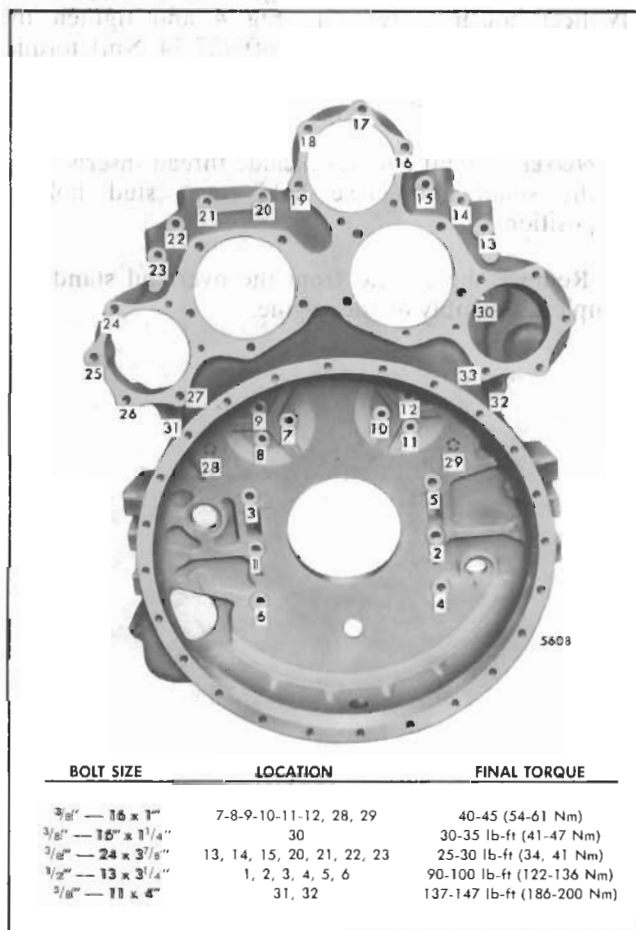

Fig. 5 - Flywheel Housing Bolt Tightening Sequence (Operation 2)
**NOTE:** Install three flywheel housing bolts with a nylon patch and flat washers at the right bank camshaft gear area (positions 13, 14 and 15 in Fig. 5).
8. Refer to Fig. 5 for the final bolt tightening sequence and, starting at number 1, tighten the flywheel housing bolts to the specified torque. Tighten the 3/8"-24 bolts to 25-30 lb-ft (34-41 Nm) torque, the 3/8"-16 self-locking idler gear hub and idler gear hole spacer bolts to 40-45 lb-ft (54-61 Nm) torque, the remaining 3/8"-16 bolts (number 30 with nylon patch) to 30-35 lb-ft (41-47 Nm) torque and the 1/2"-13 bolts to 90-100 lb-ft (122-136 Nm) torque. Tighten the two 5/8-11" outboard flywheel housing bolts on the left and right side to 137-147 lb-ft (186-200 Nm) torque. Be sure to rotate the crankshaft when tightening the idler gear hub bolts.